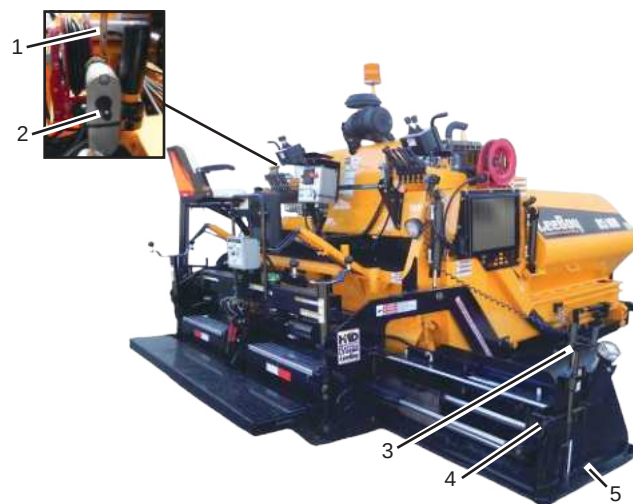

Figure 4-41. Screed, Flight Screw and Endgate
5. On the first pass, turn the endgate depth screw to lower the endgate until it is about 1/4-inch (6.35 mm) below the screed. (Figure 4-41)